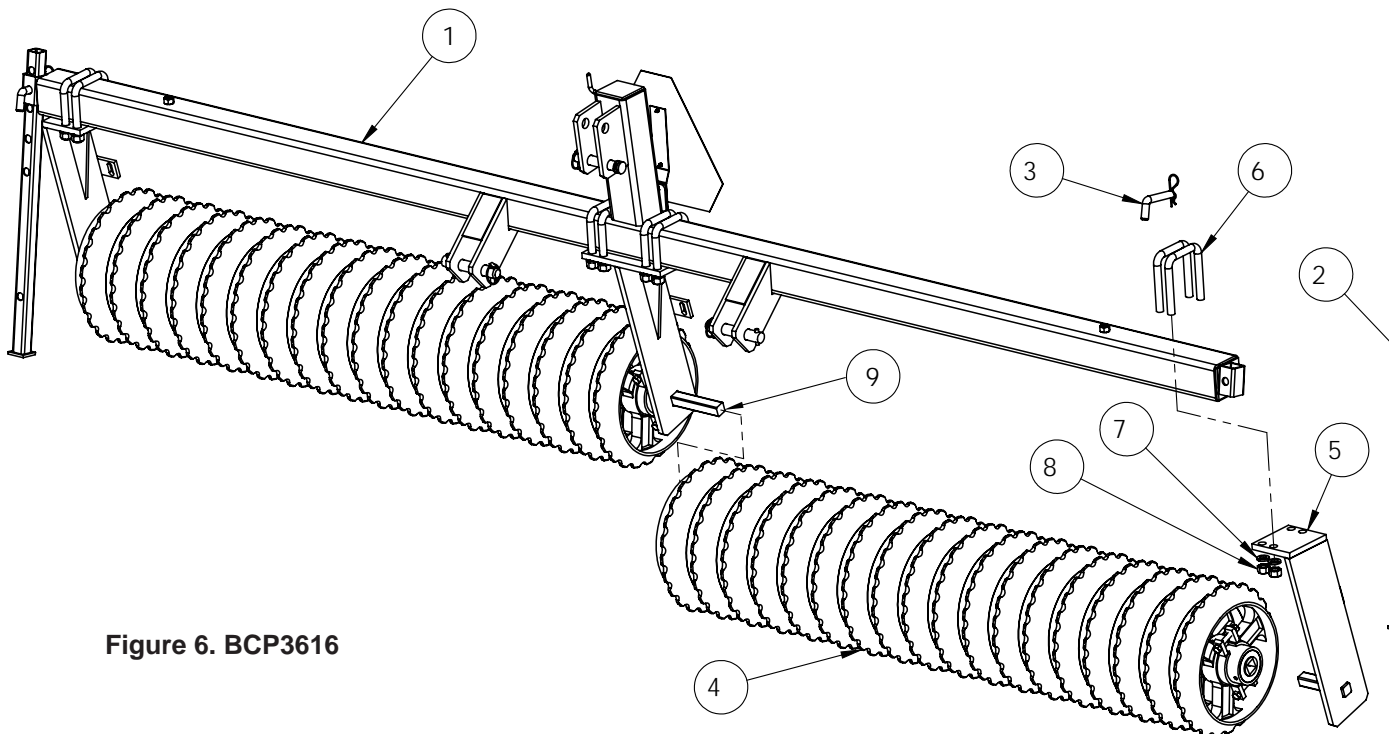

Figure 6. BCP3616
1. Remove the frame with roller assembly attached Figure 6 (Ref. 1), roller assembly (Ref. 4), hanger (Ref. 5) and parking stands (Ref. 2) from packaging.